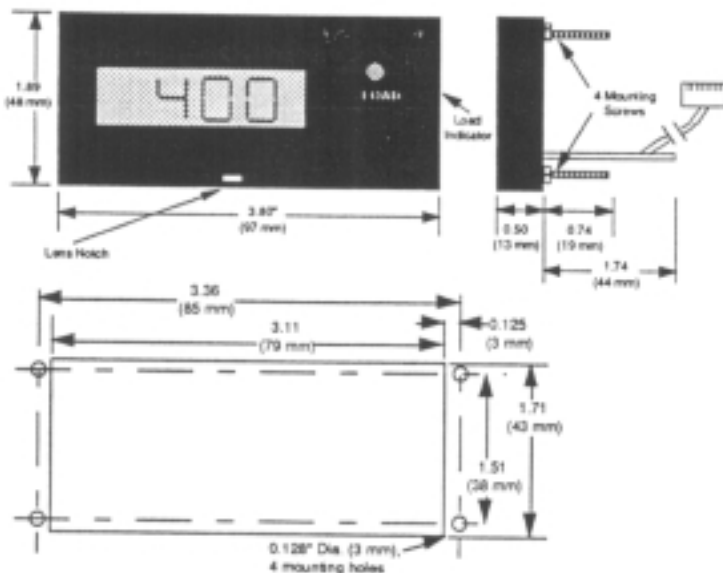

Figure 3 - Digital Display Dimensions & Panel Cutout
1. Drill four 0.128" (3 mm) diameter holes in desired panel location using the indicator as a template. See Figure 3.